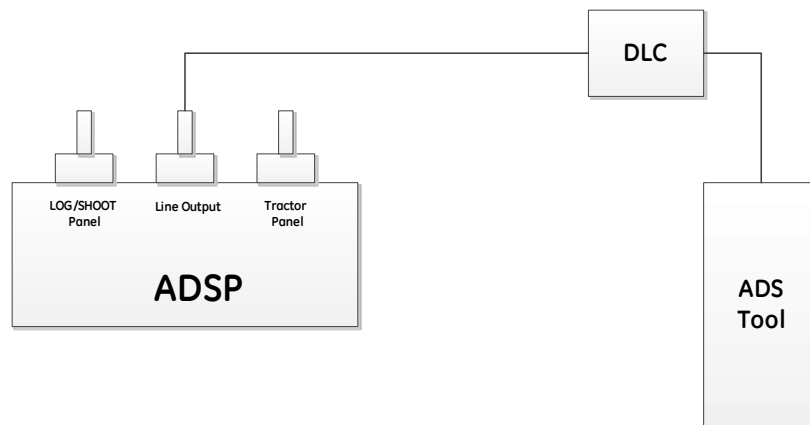

Figure 4-1 ADS003 Basic Connections
- Check, clean with Liquid-O-Ring® type 101 (P/N: LOR101) and when necessary, replace the Primary O-Rings (items 3 & 4, 09737). Refer to Section 7.1.3, Seal Replacement Recommendations.
- Connect the ADS003 to the ADSP via a logging cable or Dummy Logging Cable (DLC) as shown in Figure 4-1 and motor the ADS003 to the **SAFE (Open)** position before connecting the ADS into a toolstring.